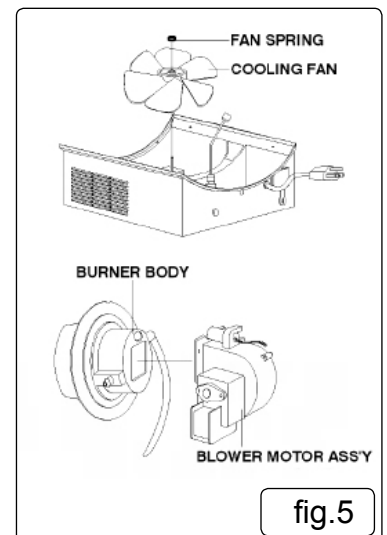

fig.5
6.4.1. The fan blades should be cleaned at least once per heating season, depending on conditions. remove all accumulated dust and dirt with a burst of condensed air fig.5.